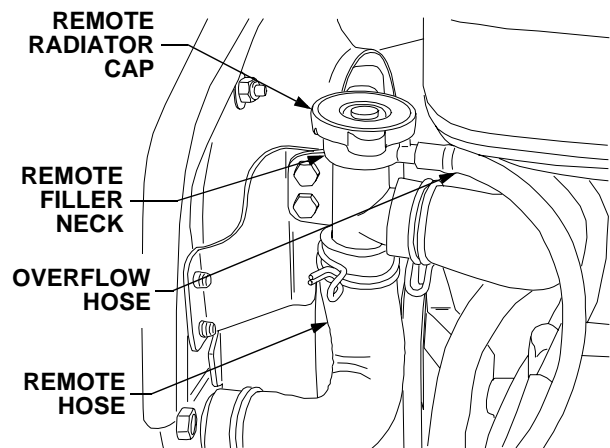

Figure 54
- Turn the remote radiator cap counterclockwise to the first stop to release any pressure. See Figure 54.
- Turn the remote radiator cap counterclockwise to the first stop, then push downward on the cap and turn counterclockwise to remove. Refer to Figure 54.